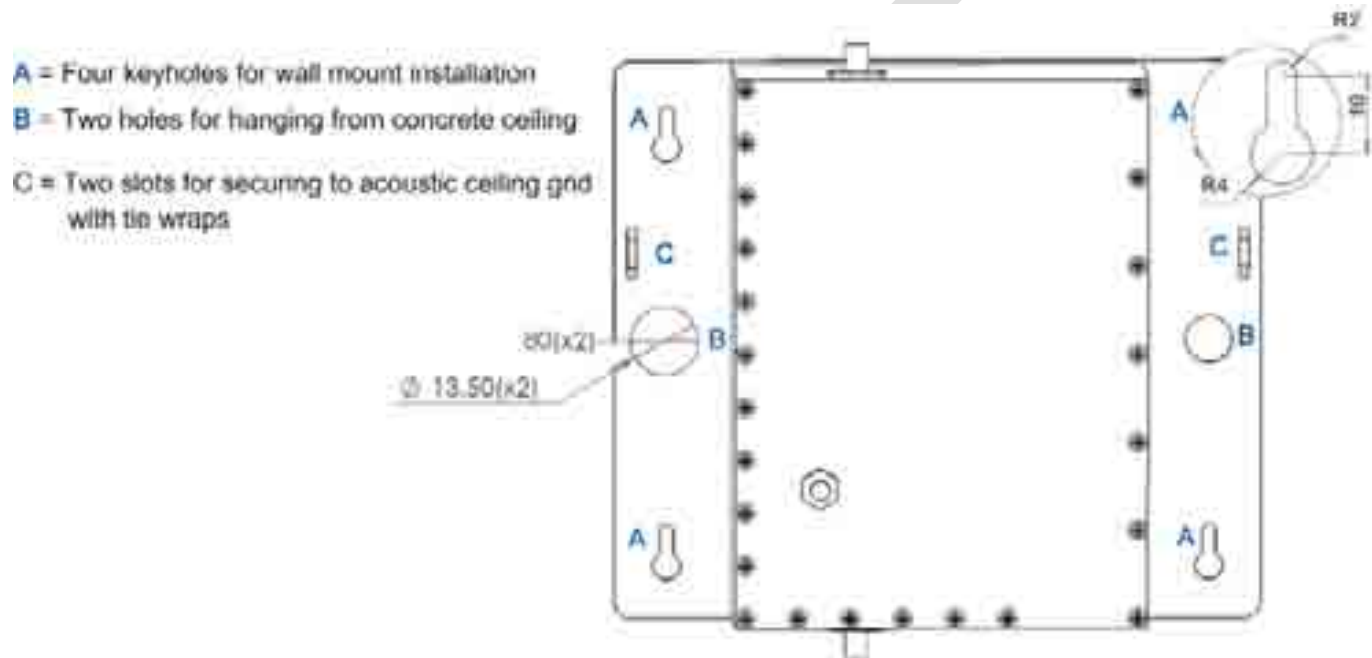
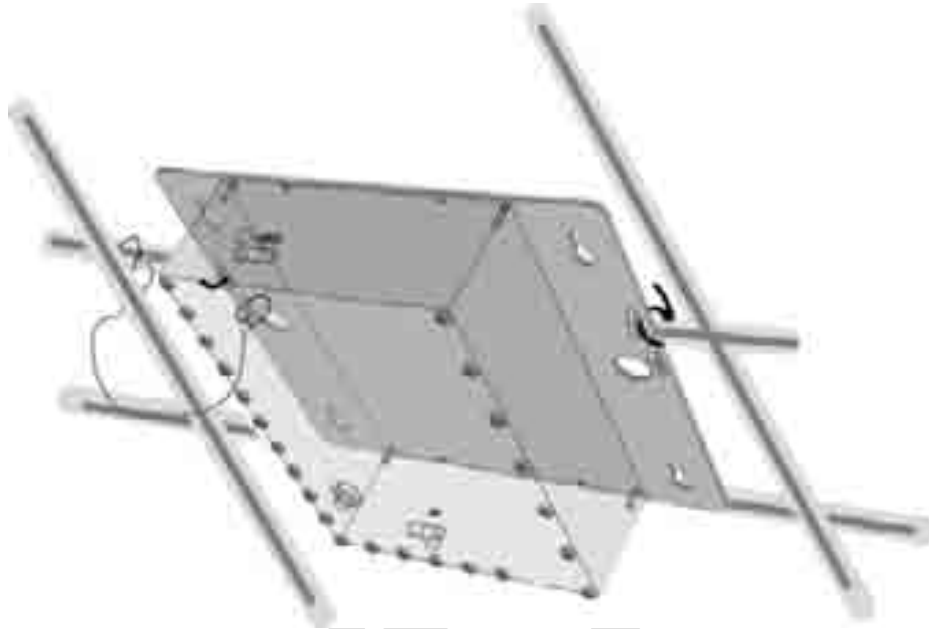

Figure 5-97. Cavity Filter Dimensions and Mounting Holes
Figure 5-99. Illustration of Cavity Filter Mounted on Acoustic Ceiling Grid
- The Cavity Filter mounting bracket supports wall/ceiling/acoustic ceiling installations. See Figure 5-97.
- Using the two holes (Item B in Figure 5-97) as a guide, mark the location of the holes to be drilled in the ceiling.
In acoustic ceiling mount installations, the Cavity Filter can be fastened to the grid by slipping tie wraps through slits on the bracket (Item C in Figure 5-97) and securing the assembly to the grid with the provided safety cable. Refer to Figure 5-99.
1. Using the four key holes (Item A in Figure 5-97) as a guide, mark the location of the holes to be drilled in the wall.